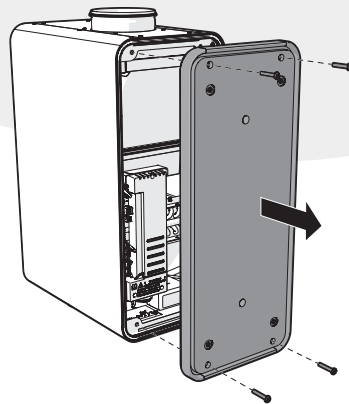

Figure 23 Removing the front
4. Remove the front (Figure 23).